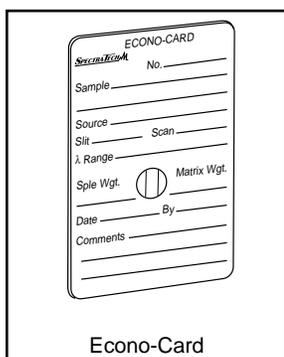

Figure 5 - ECONO-CARD
3. Place the ECONO-CARD in the slide mount of the spectrometer compartment. Be sure the sample is in the beam path (Figure 5).